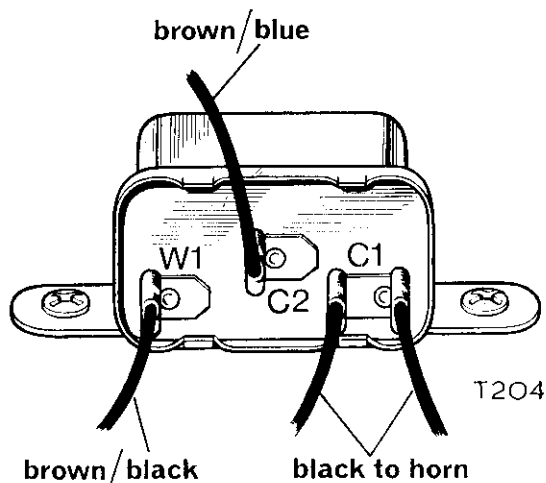

Fig. H20. Horn relay showing terminals
- (1) Eliminate the horn push circuit by earthing W1-terminal (See Fig. H20) with a temporary wire. If the horns then operate, check the horn push and associated wiring.
- (2) Having carried out test one and the horns still fail to operate, apply a direct feed to the horns with a temporary link between relay terminals C1 and C2. If the horns then operate, a faulty 6RA relay is indicated.